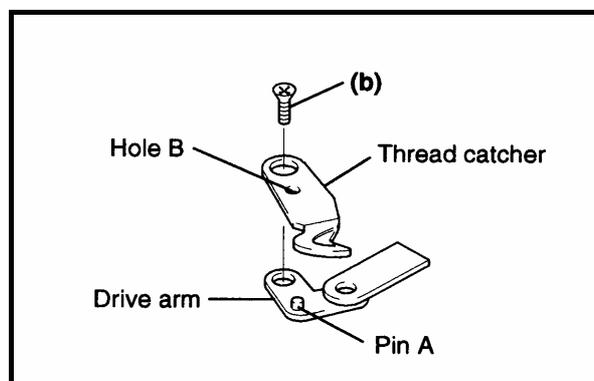

FIG.2
- (1) Put hole B of the thread catcher through pin A of the thread catcher drive arm.
- (2) Tighten setting screw (b). (Fig.2)